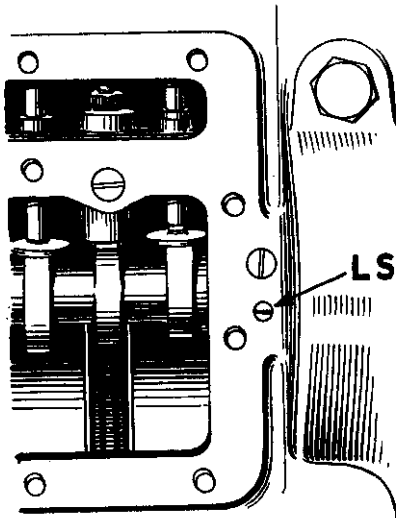

Fig. 2
- iii. Remove the locating screw, see Fig. 2.